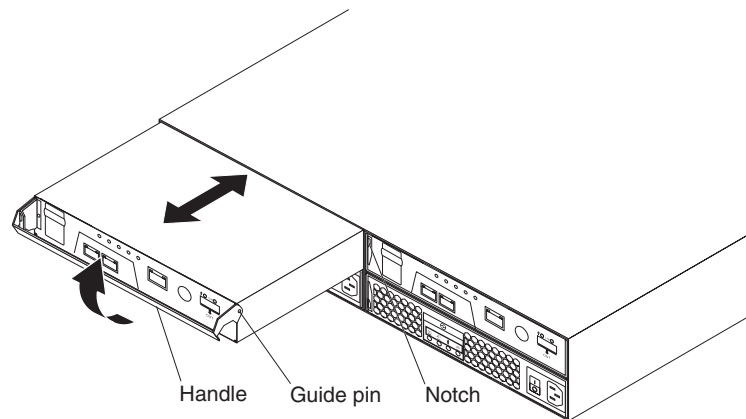

Figure 43. Removing and replacing a controller
- b. Slowly pull the handle away from the chassis to remove the controller from the bay, as shown in Figure 43.
- b. Make sure that the guide pins on the side of the controller fit into the notches on the DS3300 chassis. See Figure 43 on page 85.